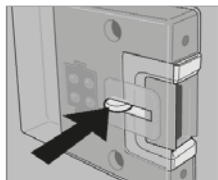

Fig. 2
- Release the locking mechanism of the door lock by pushing it and shift it to the front. If the door is shut in this position, a small gap is nevertheless kept open to prevent formation of mildew (Fig. 2+3).
3. To light: Push in the control knob and turn to full rate - see Fig.2. Hold a lighted match or taper to the burner and push the control knob
2. To light: Open door, push in the control knob and turn to full rate - see Fig 2. Hold alighted match or taper to the burner and push the control knob in and hold. The burner should ignite and the control knob should be held in for 10-15 seconds before release. If the burner goes out, repeat procedure holding control knob for slightly longer.